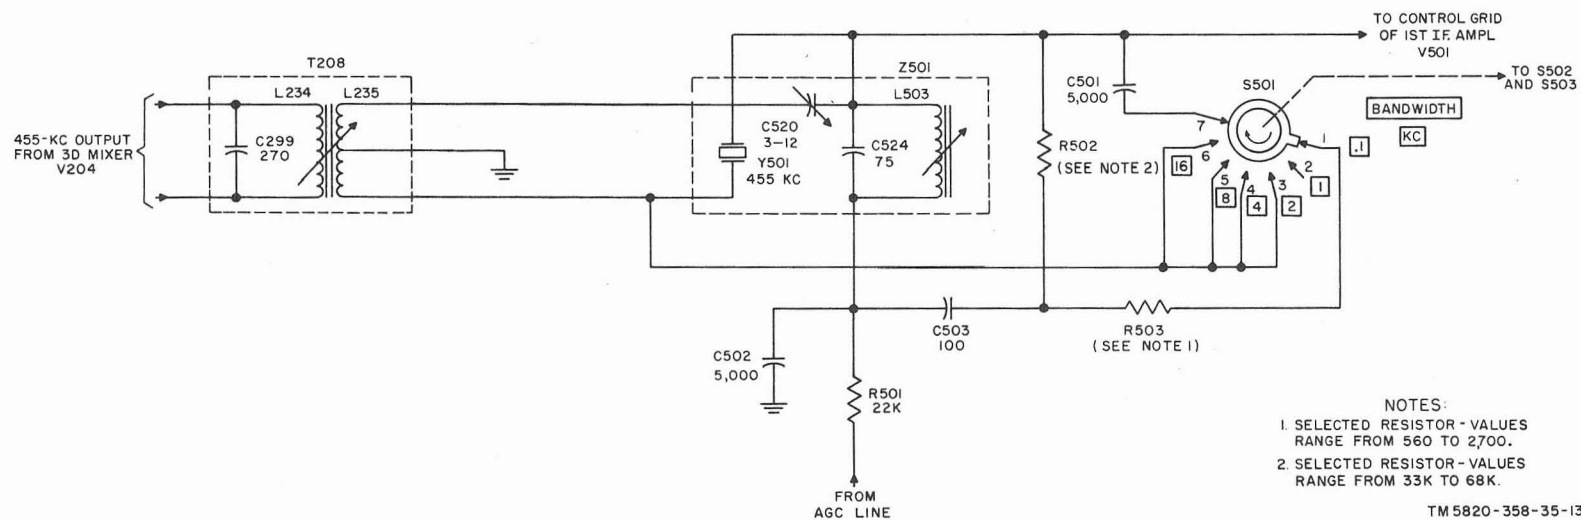

Figure 11. Crystal filter, simplified schematic diagram.
14. Crystal Filter (fig. 11)
a. The control grid of V501 is returned to the agc line through the crystal filter circuit (fig. 11). The cathode circuit returns to ground through cathode biasing resistor R504, if. choke coil L501, and RF GAIN control R103. Capacitors C505 and C504 bypass if. signals to ground. The screen grid is connected to the junction of R505 and R506, part of a voltage-divider network, consisting of R506, R505, and the cathode ground return circuit. Capacitor C506 bypasses the screen grid. Plate voltage is obtained through rf choke coil L505 and the decoupling network consisting of R508 and C511. Voltage for the plate and screen circuits is supplied by the switched rf-if. B+ line.